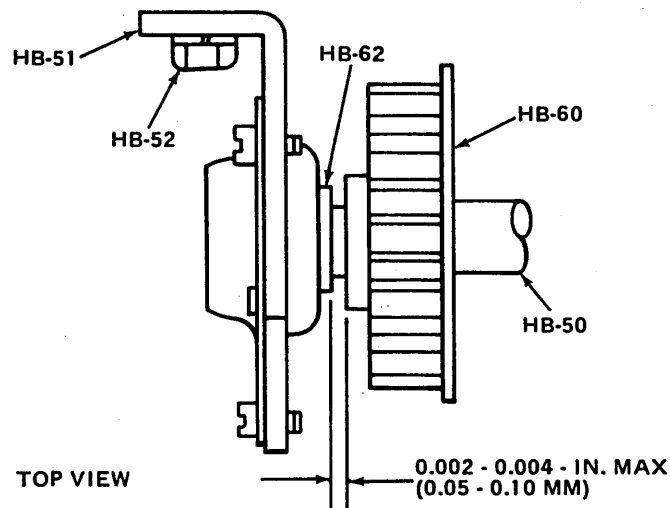

Figure 5-5. BUSHING END-PLAY ADJUSTMENT FOR PRELOAD CLUTCH SHAFT (HB-50)
G. BUSHING END-PLAY ADJUSTMENT (PRE-LOAD CLUTCH)(REFER FIG. 5-5)